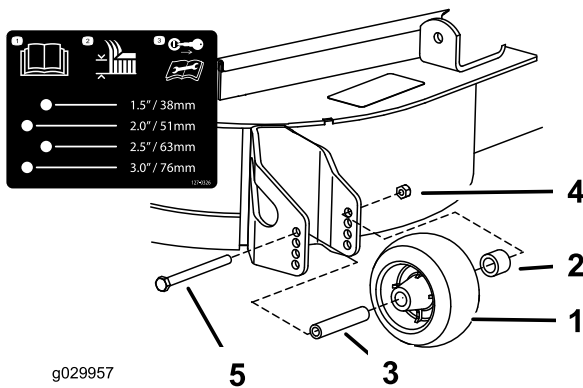

Figure 34
3. Adjust the anti-scalp rollers as shown in Figure 32, Figure 33, and Figure 34.